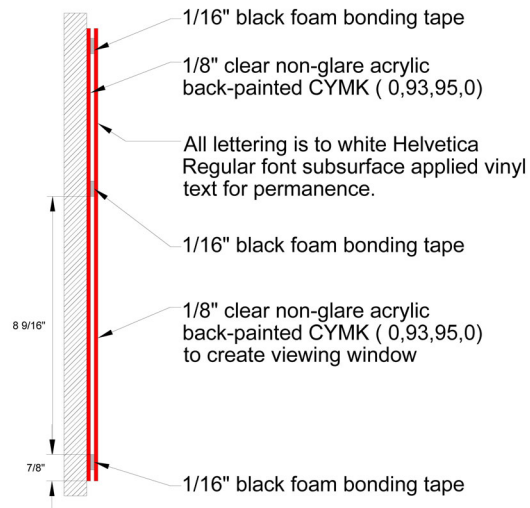

Figure 26.9
26.9. UMD H4 sign cross section shall comply with figure 26.9.